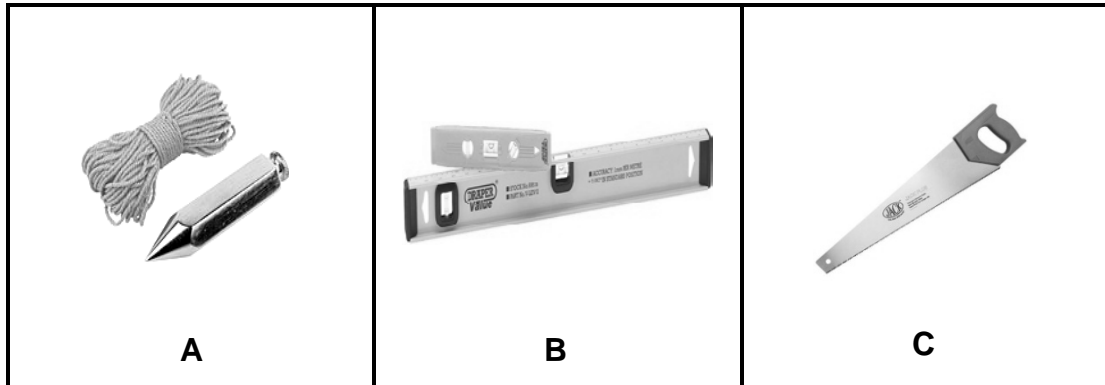

FIGURE 2.2
2.2 FIGURE 2.2 below shows hand tools that are used on a site and in a workshop. Write down the correct name of each tool next to the letter (A–C) in the ANSWER BOOK.